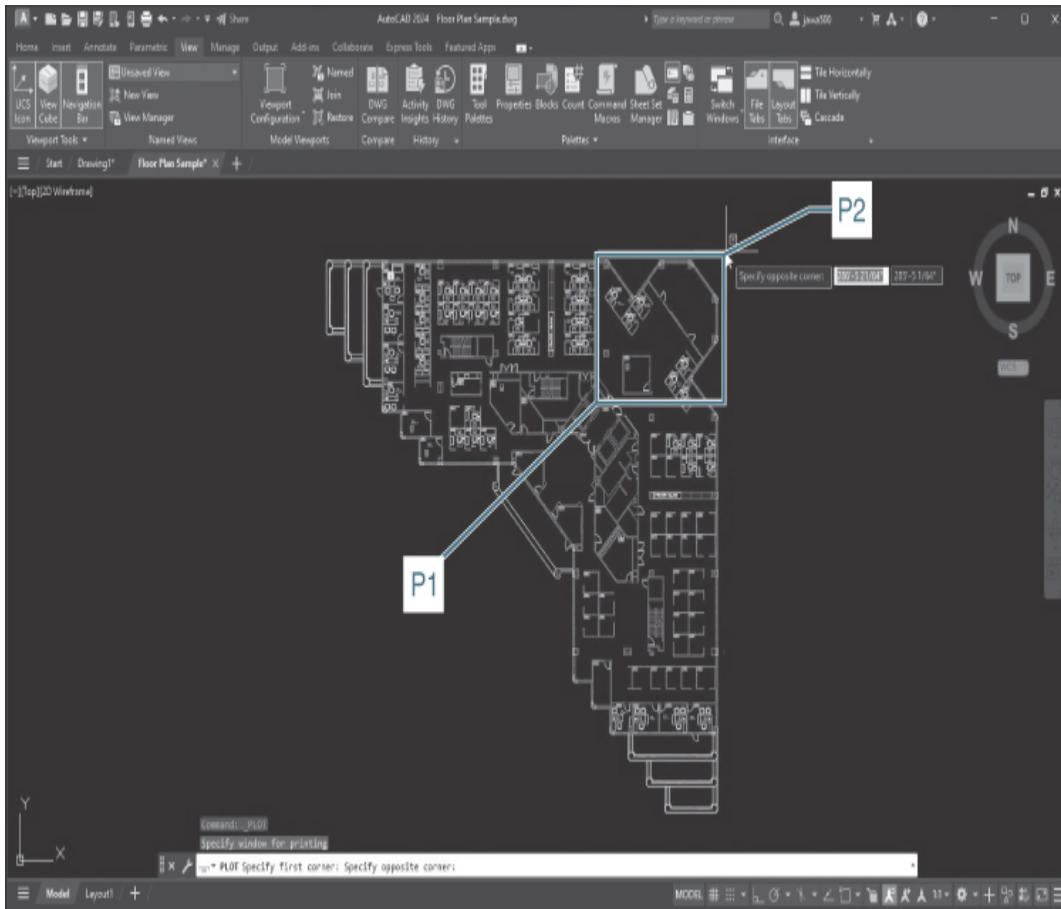

Figure 15-5
- 10 Draw a window around the upper-right corner of the building as shown in Figure 15-5. After drawing the window, AutoCAD returns you to the **Plot** dialog box.